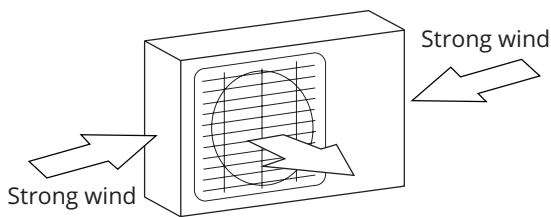

Fig 6.1
- If the location is exposed to strong winds (for example: near a seaside), the unit must be placed against the wall to shelter it from the wind. If necessary, use an awning with at least 18" of clearance. (See Fig. 6.1 & 6.2)